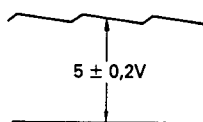

Figure 45.
2. Monitoring TP3 with an oscilloscope (internal trigger), adjust R740 so that the requirement given in Figure 45 be met.